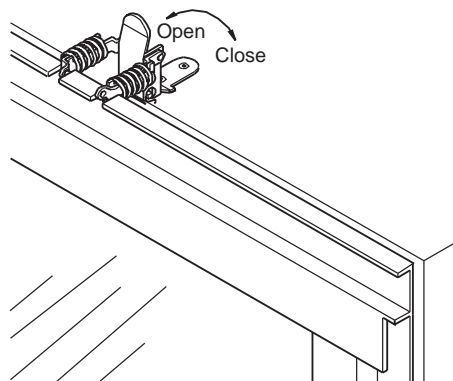

Figure 41 - Removing Glass Door
3. To open the glass door, open the pairs of latches located on the top and bottom of the firebox (see Figure 41). **Note:** Use caution when opening these latches.